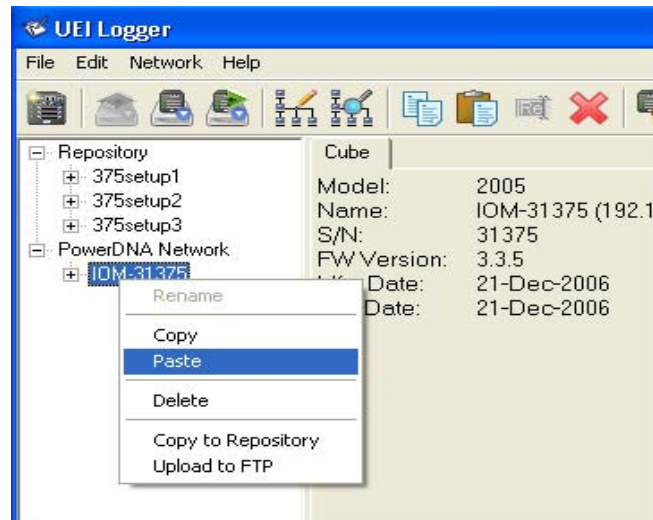

Figure 2-9. Copying a Configuration to a Cube - Step3
- STEP 3:** Move cursor to the Active Cube, right-click, and select Paste, as shown in **Figure 2-9**. This action copies the configuration files from Setup1 to the Cube for the current session. Be sure to paste the files to the Cube and *not* to the CFG folder under the Cube.